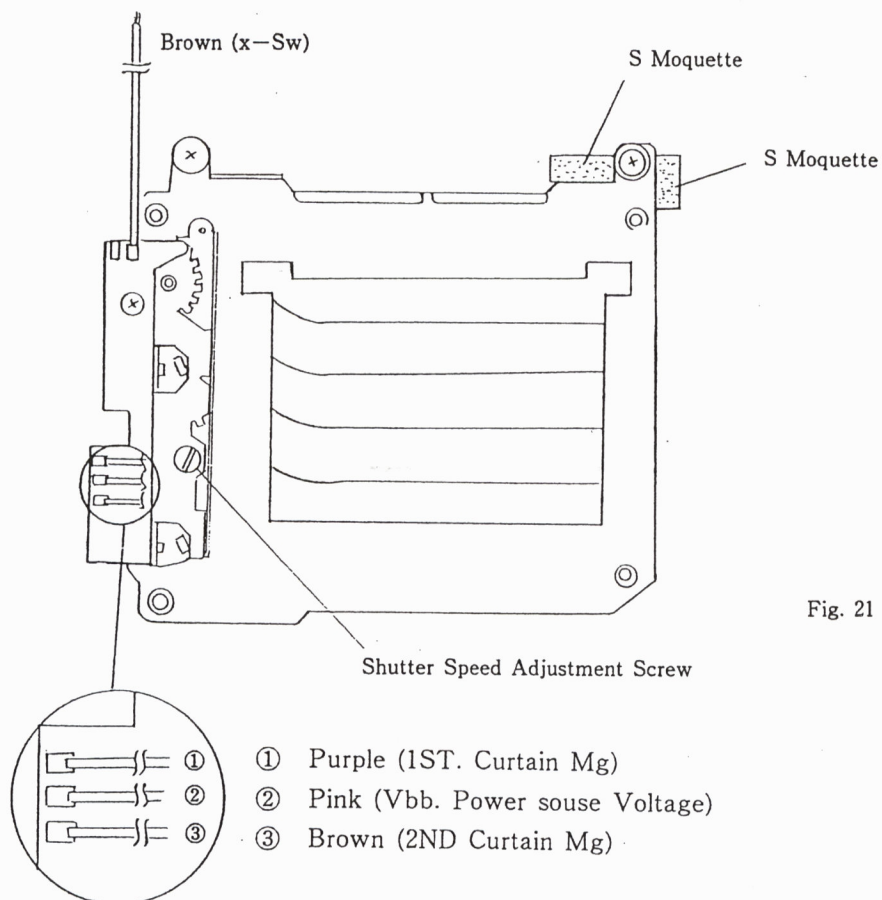

Fig. 21
- ※ If the Shutter is replaced, make sure that the S Moquette is to the body as shown in Fig. 21.